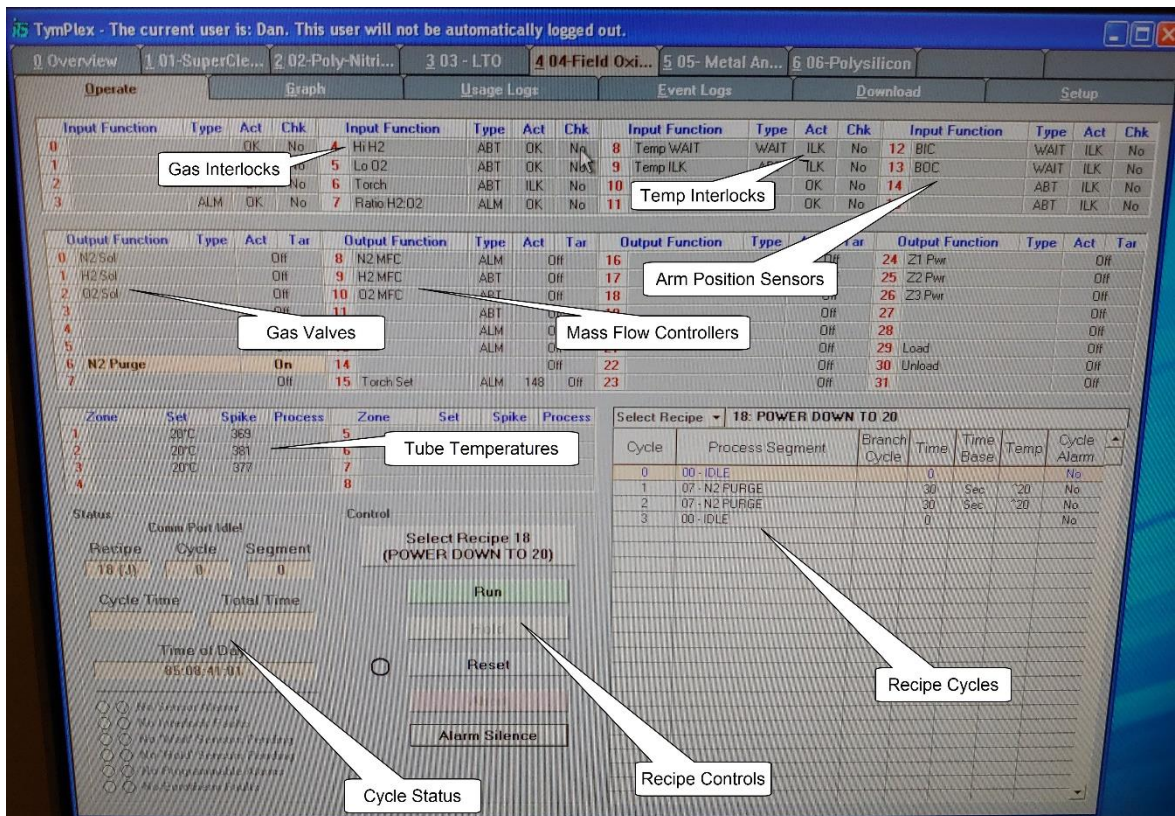

Figure 3 – Tube Control Dashboard
- Figure 3 describes some of the things you'll see on the "Operate" tab of the tube.